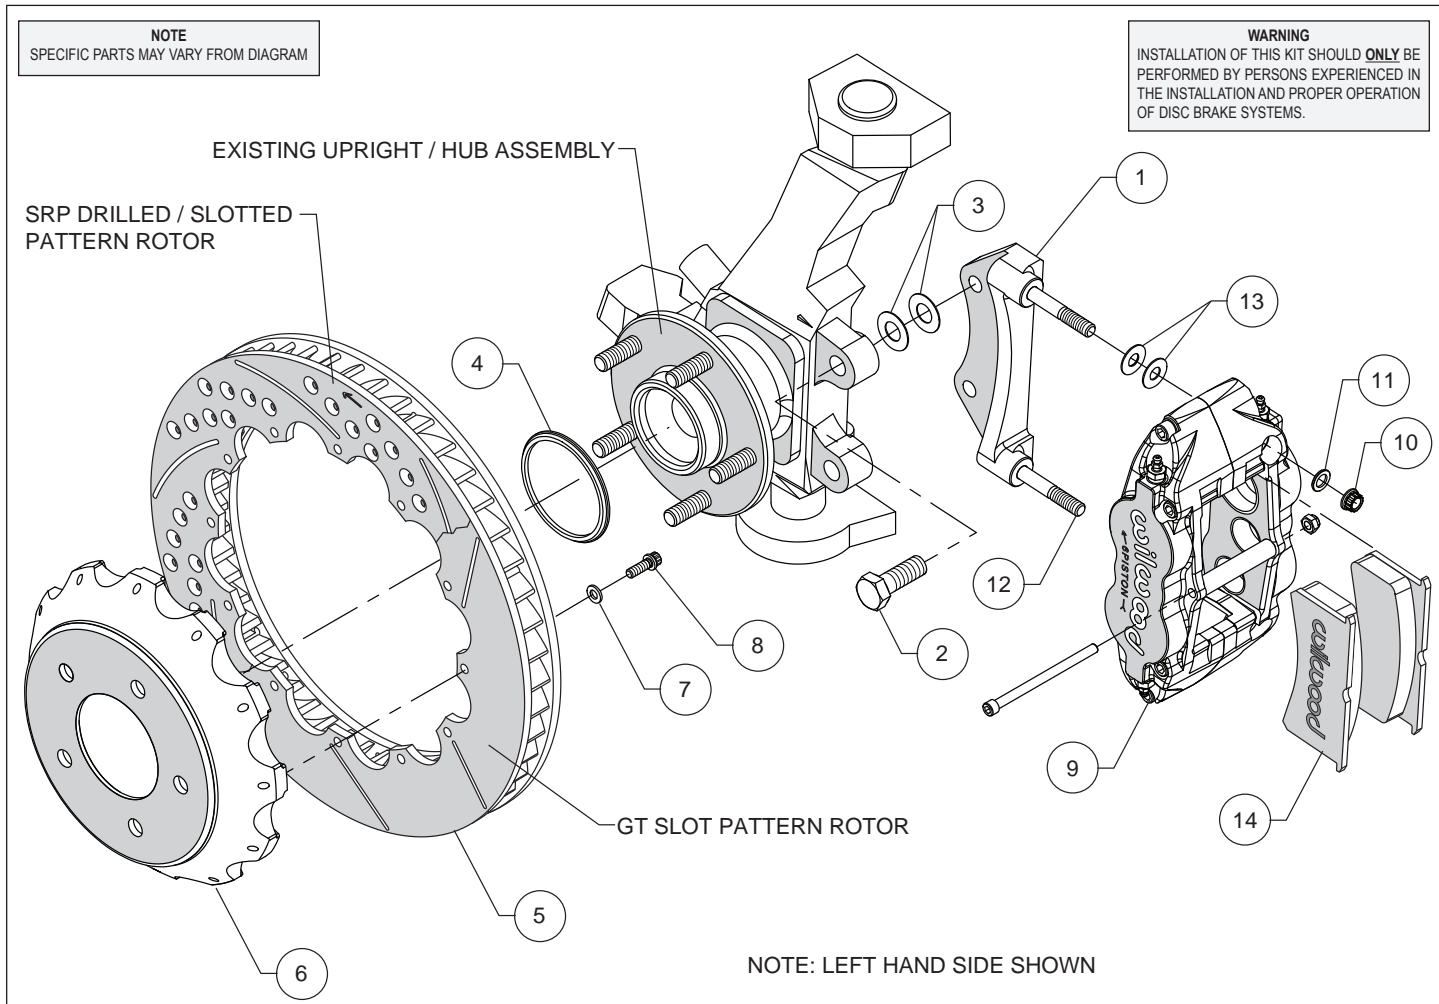
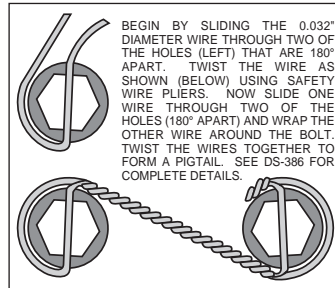

Figure 1. Typical Installation Configuration
Figure 3. Safety Wire Diagram
Assembly Instructions (numbers in parenthesis refer to the parts list and Figure 1 on the preceding pages):
- The caliper mount bracket (1) should initially be installed with clean, dry threads on the mounting bolts. Orient the bracket as shown in Figure 1 and Photo 1, and install using shim washers (3) and bolts (2). Initially place two shims (3) on each bolt between the bracket and upright, Figure 1. Temporarily tighten the mounting bolts. **NOTE: The bracket must fit squarely against the mount bosses on the upright.** Inspect for interference from casting irregularities, machining ridges, burrs, etc. Later, after the caliper alignment has been checked, the mount bolts will be secured using red *Loctite*[®] 271.
- Orient the rotor (5) and the hat (6) as shown in Figure 1 and Photo 2. Attach rotor to hat using bolts (8) and washers (7). Using an alternating sequence, apply red *Loctite*[®] 271 to the threads, and torque to 155 **in-lbs**. Safety wire bolts using standard 0.032 inch diameter stainless steel safety wire as shown in Figure 3. Please refer to Wilwood's data sheet DS-386 (available at www.wilwood.com/Pdf/DataSheets/ds386.pdf) for complete safety wire installation instructions.
- Slide the rotor registration adapter (4) onto the axle register on the axle hub with the smaller O.D. facing outward, Photo 3. Slide the hat/rotor assembly onto the axle hub. **NOTE: The hat must fit flush against the axle hub flange or excessive rotor run out may result.** Install three lug nuts (finger tight) to keep the hat/rotor assembly in place while continuing with the installation.
- **NOTE: This kit contains distinct right and left hand calipers that must be mounted in a specific direction, as described below.** Lubricate the caliper mounting studs (12) with lightweight oil. Initially place two .035" thick shims (13) on each stud as shown in Figure 1 and Photo 4. Mount the caliper (9) onto the bracket (1) using lock nuts (10) and washers (11), Figure 1. Ensure that the caliper is mounted so that the largest pistons are at the rotor exit end of the caliper, in relation to the direction of rotor rotation. Temporarily tighten the lock nuts and view the rotor through the top opening of the caliper. The rotor should be centered in the caliper, Photo 5. If not, adjust by adding or subtracting shims (3) between the bracket and the upright. Always use the same amount of shims on each of the two mounting bolts. Once the caliper alignment is correct, remove the bracket mounting bolts one at a time, apply red *Loctite*[®] 271 to the threads, and torque to 75 ft-lb.